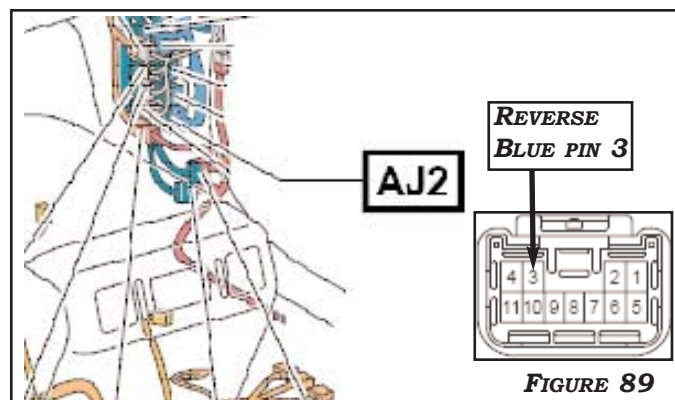
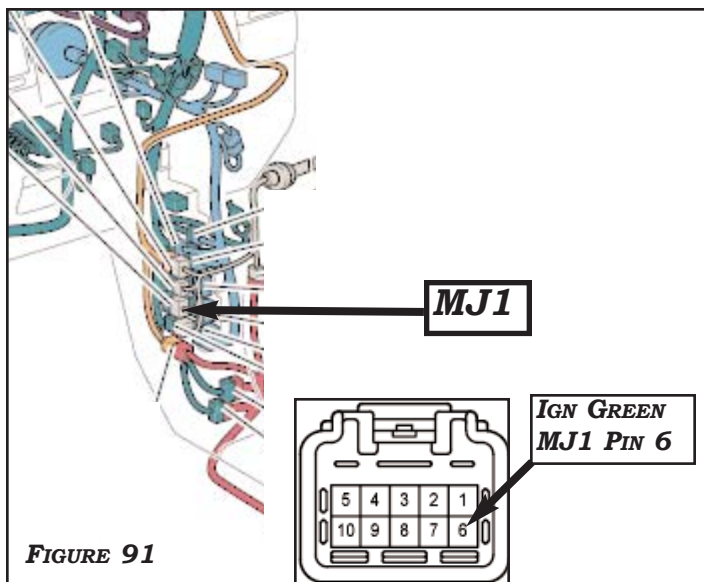
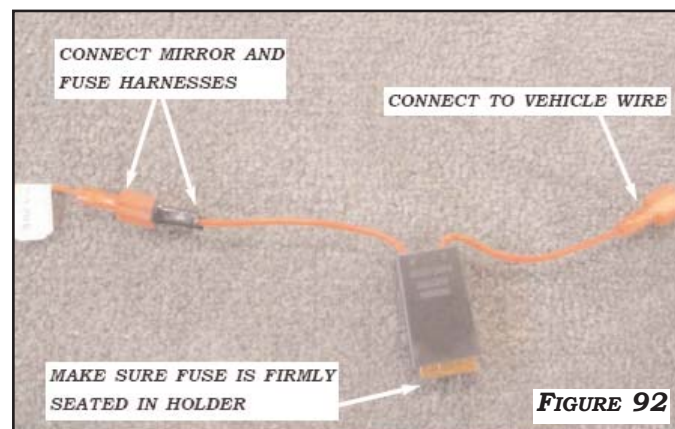

FIGURE 89
FIGURE 91
FIGURE 92
3. LOCATE THE WHITE BOTTOM CONNECTOR **AJ2** AT THE KICK PANEL. USE THE SUPPLIED RED T-TAP TO CONNECT THE **WHITE REVERSE WIRE** OF THE POWER HARNESS TO THE **BLUE WIRE** IN **PIN 3** OF CONNECTOR **AJ2**. **FIGURE 89.** USE THE SUPPLIED BLUE T-TAP TO CONNECT THE **BLACK GROUND WIRE** OF THE POWER HARNESS TO THE **WHITE/BLACK WIRE** AT **GROUND POINT J3**. **FIGURE 10.** LOCATE THE BLUE CONNECTOR **MJ1** (SECOND FROM BOTTOM AT THE KICK PANEL. USE THE SUPPLIED RED T-TAP TO CONNECT THE **RED IGNITION WIRE** OF THE POWER HARNESS TO THE **GREEN WIRE** OF CONNECTOR **MJ1** IN **PIN 6**. **FIGURE 91.** USE THE SUPPLIED FUSE HARNESS BETWEEN THE **RED IGNITION WIRE** OF THE MIRROR POWER HARNESS AND **GREEN WIRE** OF VEHICLE. **FIGURE 92.** SECURE ALL HARNESSES WITH WIRE TIES.